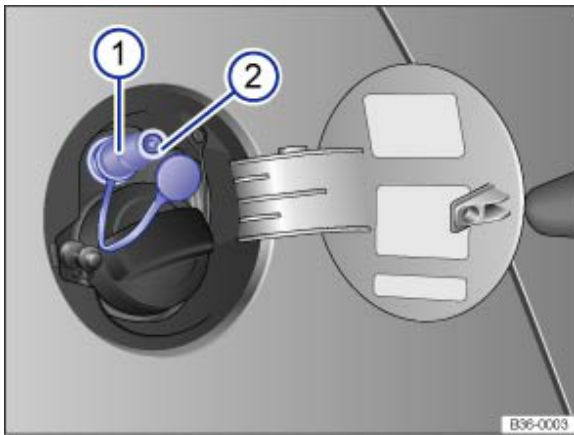

Fig. 189 With the tank flap open: gas filler neck ①, gas filler neck seal ②
- Remove the cap from the gas filler neck → Fig. 189 ①.
- Check whether sealing ring → Fig. 189 ② on the gas filler neck has slipped onto the filler coupling. Place the seal back in the gas filler neck as necessary.